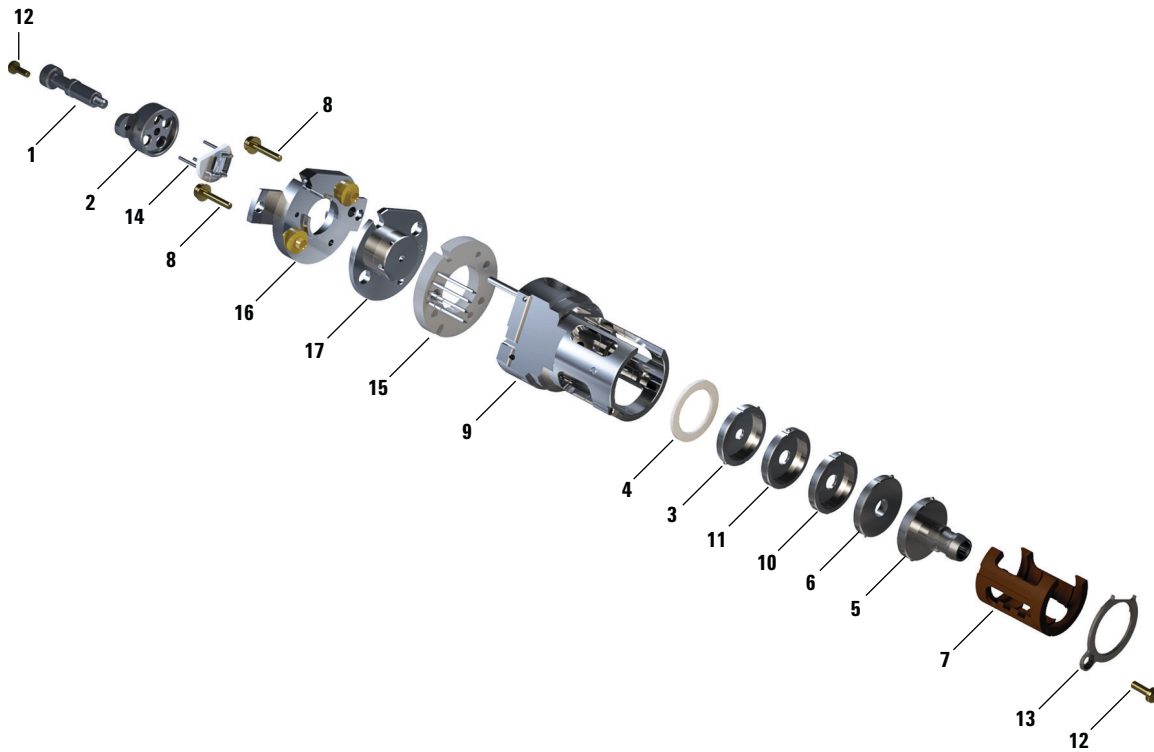

Figure 24. Exploded parts view of the LE-EI ion source
Refer to **Figure 24**, “Exploded parts view of the LE-EI ion source,” on page 94, and **Table 11**, “Parts list for LE-EI ion source (**Figure 24**),” on page 95 while using this procedure.
- 3 Insert the lens stack encased in the insulator into the source body. (See Figure 24, "Exploded parts view of the LE-EI ion source," on page 94.) The engraved numbers face the full opening extending to the end of the source body. Verify that the ceramic is sitting flush at the end of the source body.
**Table 11** Parts list for LE-EI ion source (Figure 24)